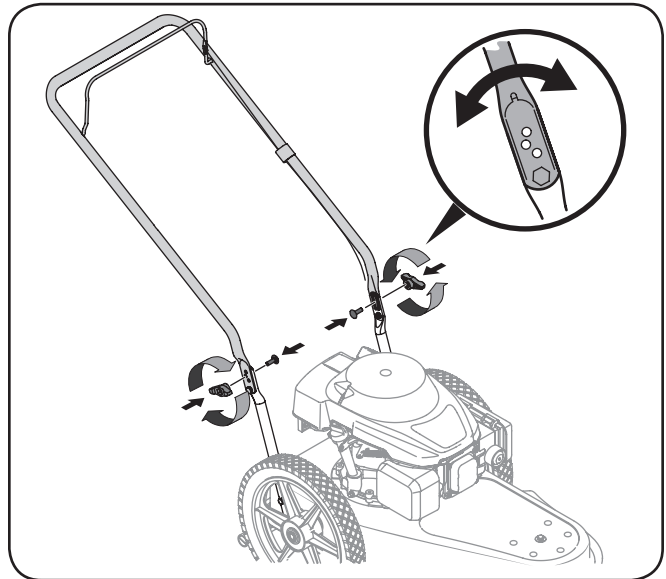

Figure 3-2
3. Move the upper handle into one of three positions by pivoting it forward or rearward. Secure the upper handle to the lower handle using the carriage bolts and wing knobs removed in Step 1. See Figure 3-2.